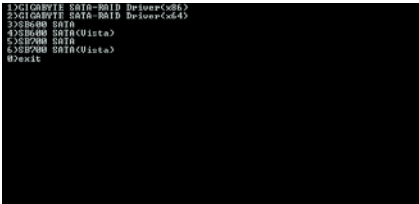

Figure 2
Step 2: When the controller menu (Figure 2) appears, remove the startup disk and insert the blank formatted disk. Select the controller driver by pressing the corresponding letter from the menu. For example, from the menu in Figure 2, to install Windows XP to your RAID/AHCI hard drives, select **(5) SB700 SATA** for the AMD SB700 SATA controller. To install Windows Vista to your RAID/AHCI hard drives, select **(6) SB700 SATA (Vista)** for the AMD SB700 SATA controller. Your system will then automatically zip and transfer this driver file to the floppy disk. Press <0> to exit when finished.
Use an alternative system and insert the motherboard driver disk. From your optical drive folder, double click the **MENU.exe** file in the **BootDrv** folder (Figure 3). A command prompt window will open similar to that in Figure 2.